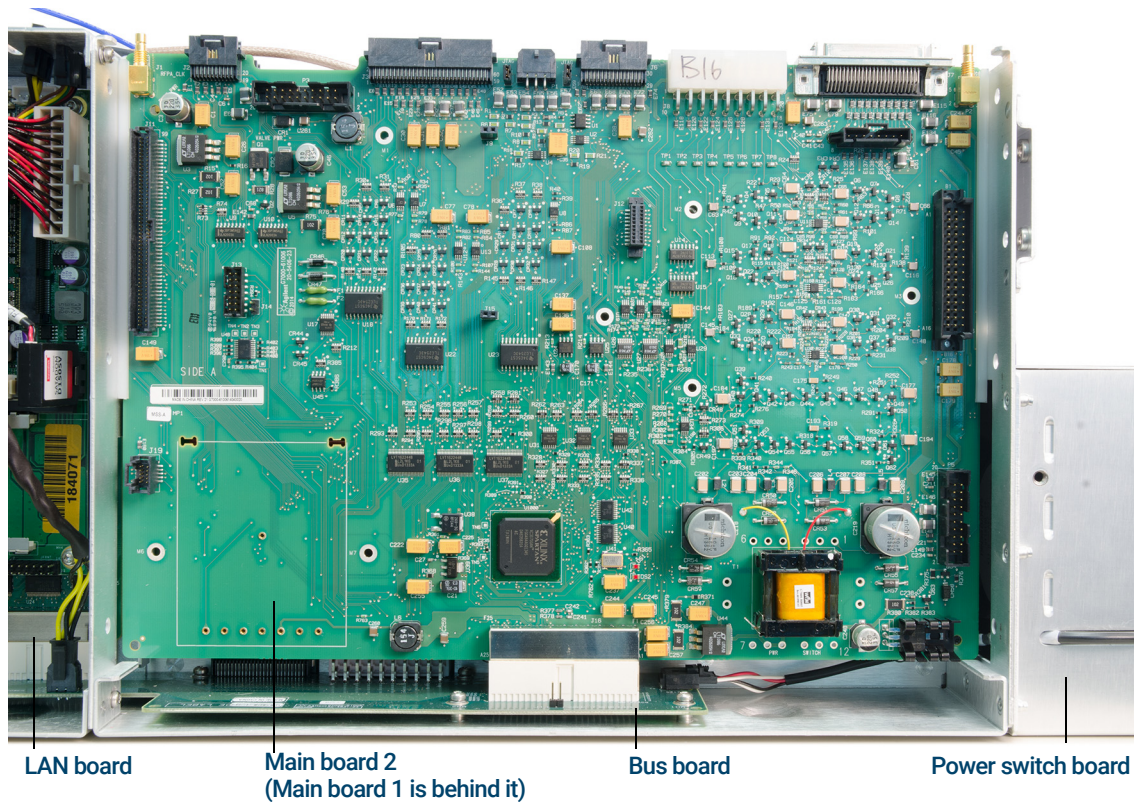

Figure 47. Electronics module, side 2
- Main Board 2 (See **Figure 47** on page 181.)
- LAN/MS control card (Smartcard 4) (See **Figure 47** on page 181.)
- Bus board (See **Figure 47** on page 181.)
- Power switch board (See **Figure 47** on page 181.)